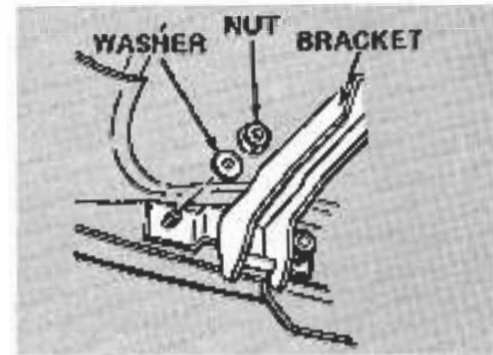

Fig. 3-8. Bracket being removed from rear bumper.
4. To remove the brackets, remove the nuts shown in Fig. 3-8.